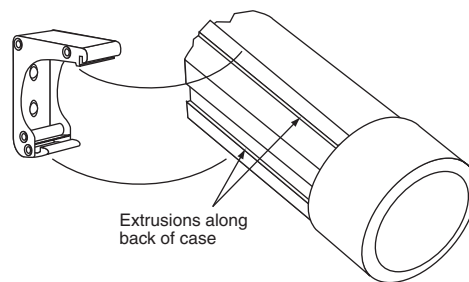
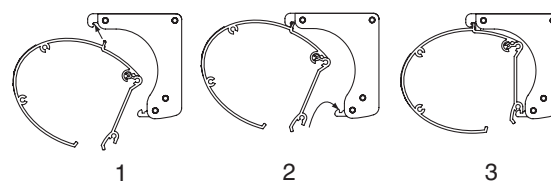

Figure 2
Figure 3
- ② Plug the power cord (included if ordered) into the motor end of the screen case (left end as the viewer sees the screen).
- ③ Attach the screen by snapping the extrusions on the back of the case onto the brackets. With the lower edge of the screen case tilted away from the wall, engage the rib on top of the case with the slot on each bracket. Slide the screen case along the brackets to adjust the screen location from left to right if necessary (see Fig. 2). Once the case is in position, pivot the case back toward the brackets until the lower edge of the case "snaps" into place with the spring-loaded latch (see Fig. 3).